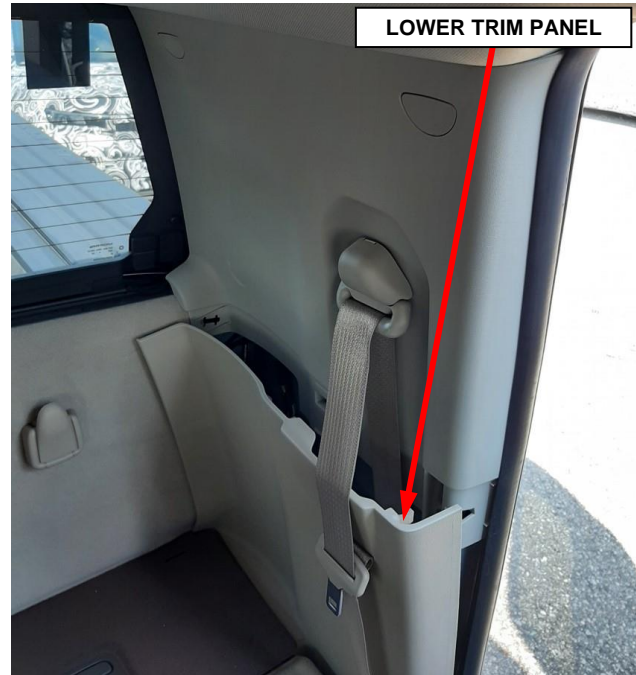

Figure 61 – C-Pillar Lower Trim Panel
12. Release the upper retaining clips of the lower C-pillar trim panel to allow for removal of the upper C-pillar trim panel (Figure 61).
61. Position the lower C-pillar trim panel and engage the retaining clips fully (Figure 61).